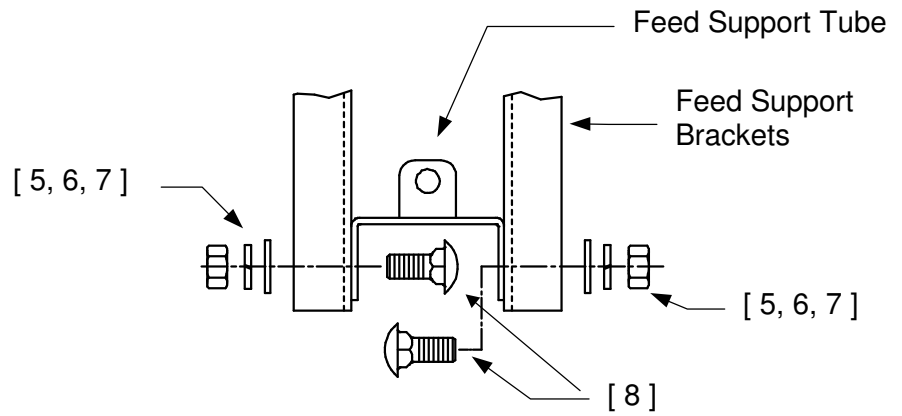

**FIGURE 3**
- A). Before attaching the feed support, sight the bottom of the reflector with the reflector support tube, to be sure the reflector is centered. If not, move the reflector left or right along the crossarms. See Figure 3.
- B). Loosely mount the bottom of the feed support to the reflector support tube with (2) of (items 8, 5, 6, 7). See Detail B.